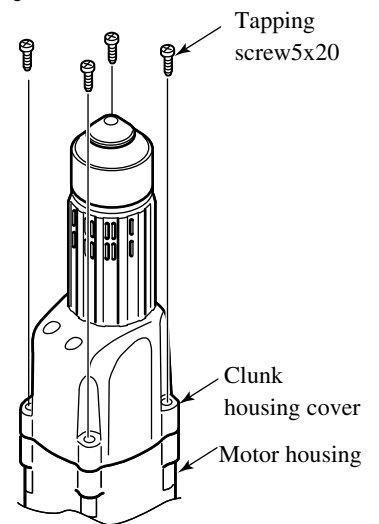

Fig. 2
- 2) Remove Tapping screw 5x20 (4 pcs) , and separate Clunk housing from Motor housing. (See Fig.2)